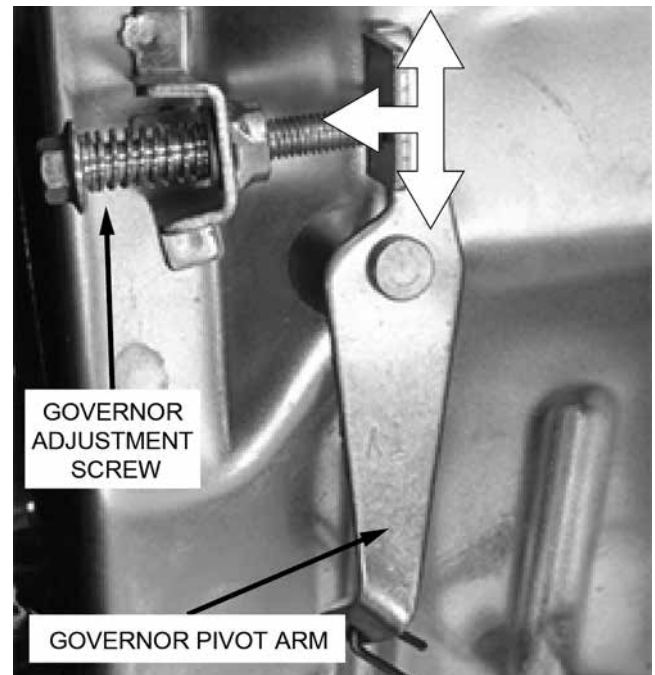

Figure 31.
5. Set the Governor Adjustment Screw to be perpendicular to Governor Pivot Arm. This will set the initial speed close to the operating speed. (See Figure 31)
8. Adjust speed by turning the Governor Adjustment Screw. If the speed is too high, rotate the screw counterclockwise. If the speed is too low, rotate the screw clockwise. (See Figure 31)